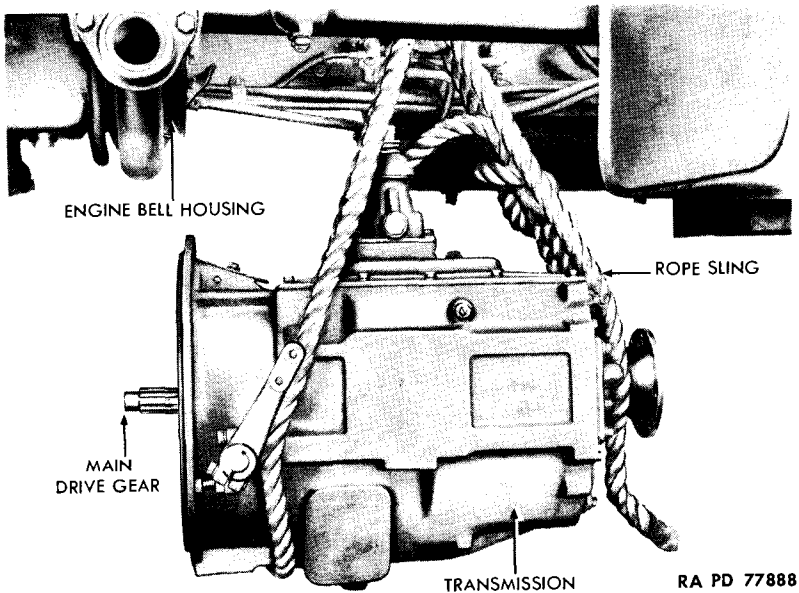

Figure 54 — Removing Transmission
m. Remove Transmission (fig. 54). Attach rope sling to transmission. Attach chain fall or other suitable lifting apparatus to sling, and pull up just enough to take weight of transmission from bell housing. Remove remaining eight cap screws and lock washers (two already removed) which secure transmission to bell housing.
- a. **Position Transmission to Clutch Bell Housing** (fig. 54). Slide transmission under vehicle. Attach rope sling, and raise to position about a foot behind bell housing with chain fall and rope sling. Push transmission forward to position against bell housing. Install 8 of the 10 cap screws and lock washers which secure transmission to housing. Remove rope sling and lifting apparatus.